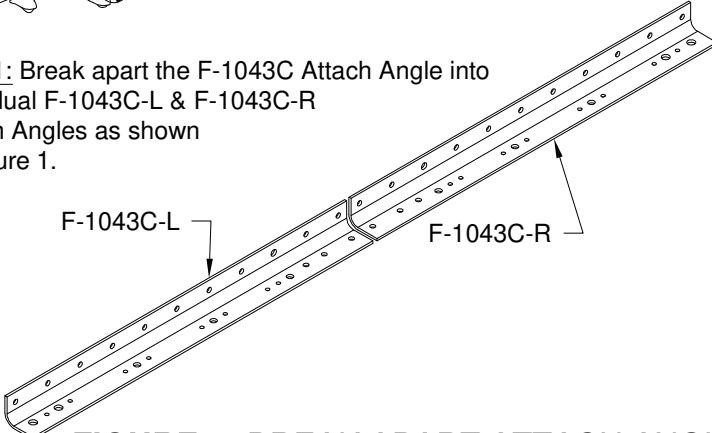

FIGURE 1: BREAK APART ATTACH ANGLE
Step 1: Break apart the F-1043C Attach Angle into individual F-1043C-L & F-1043C-R Attach Angles as shown in Figure 1.